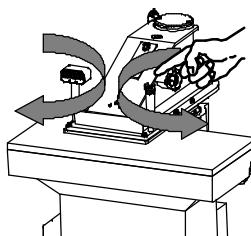

Fig. 11
- b) The arm can be moved both to the left and to the right (with a total rotation of 180° about) by means of the two handles. On the right one there is the 2-hand control push-button (Fig. 11).